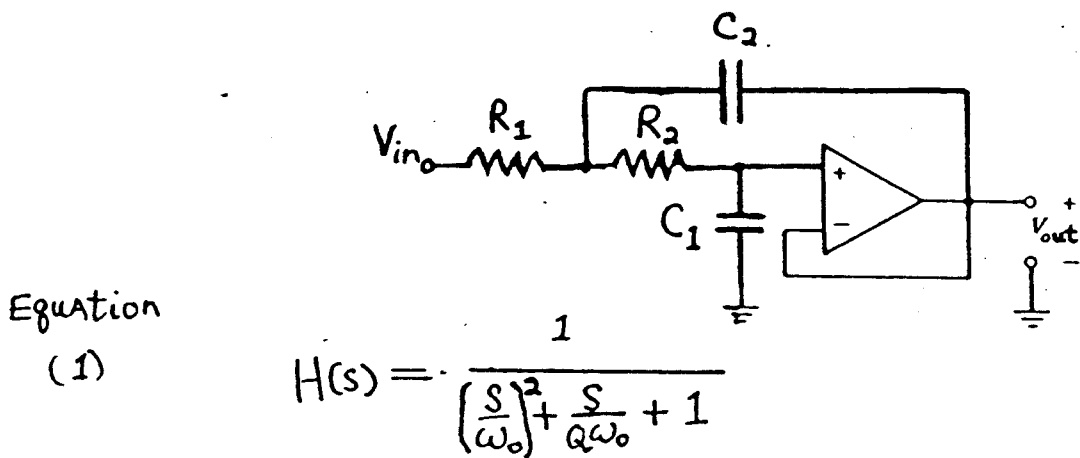

Figure 8. An op amp low pass filter
The op amp is widely used as a filter building block. A second order low pass filter is shown below in Figure 8. Calculate and choose the resistor and capacitor values using standard values to give $f_{-3\text{ dB}} \approx 1\text{ kHz}$ and $Q \approx 0.707$. (Find $v_{\text{out}}(s)/v_{\text{in}}(s)$ in terms of R 's and C 's. Arrange this transfer function into the form of equation (1) in Figure 8. For Butterworth type low pass filters, $W_0 = 2\pi \cdot f_{-3\text{ dB}}$).